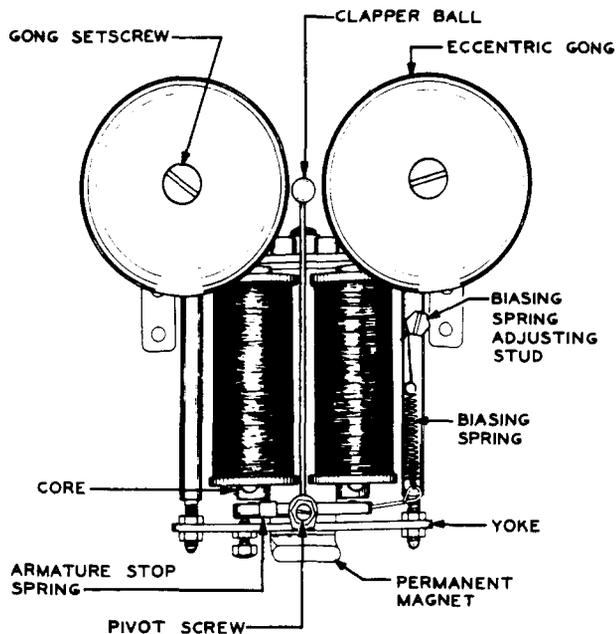

Fig. 13 - Adjusting Screws for 78-type Ringers
(3) If the ringer is equipped with gongs of the eccentric type as shown in Fig. 13, loosen the gong setscrew with the 4-inch regular screwdriver or the No. 311 wrench and rotate the gong as required, by hand.